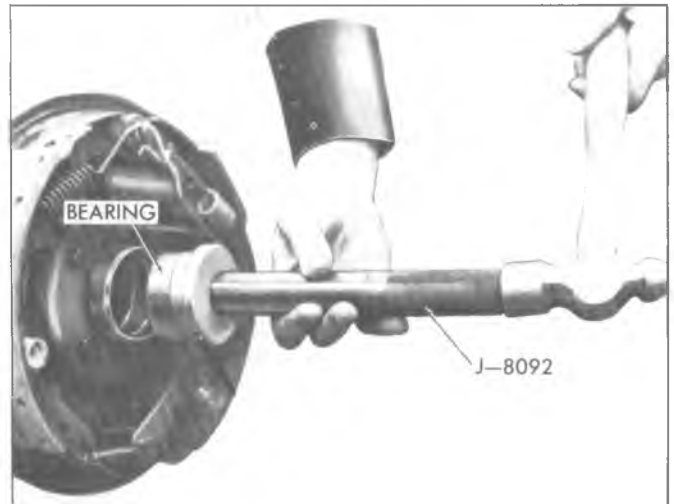

Fig. 21—Axle Shaft Bearing Installation
5. To install bearing, place on Tool J-23690 (heavy duty axle or J-23765 light duty axle), Bearing Installer, and, using J-8092 Drive Handle, drive bearing in bore until tool bottoms against end of tube (fig. 21). This tool installs bearing to a depth of .550" from end of tube.